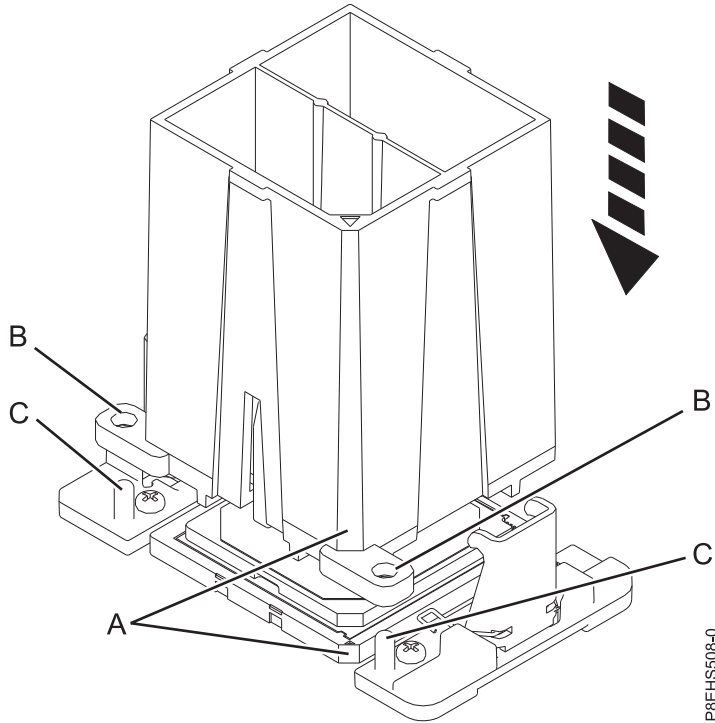

Figure 92. Lowering the removal tool onto the system processor module
- a. Using the supplied removal tool (part number 01AF101), align the beveled corner (A) of the tool over the beveled corner of the system processor module as shown in Figure 92 on page 90.
- b. Lower the tool over the system processor module by ensuring the two guide pins (C) are inserted into the alignment holes (B) on each side of the tool.